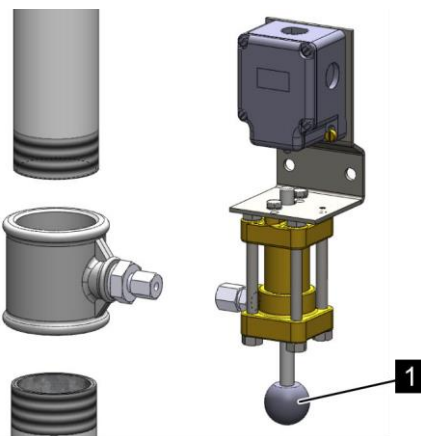

Fig. 182: Checking limit switches
2. ➤ Press the pushbutton (Fig. 182/1) on the cylinder of the limit switch in the direction of the limit switch.
4. ➤ Return the pushbutton to the resting position (as shown in Fig. 182).